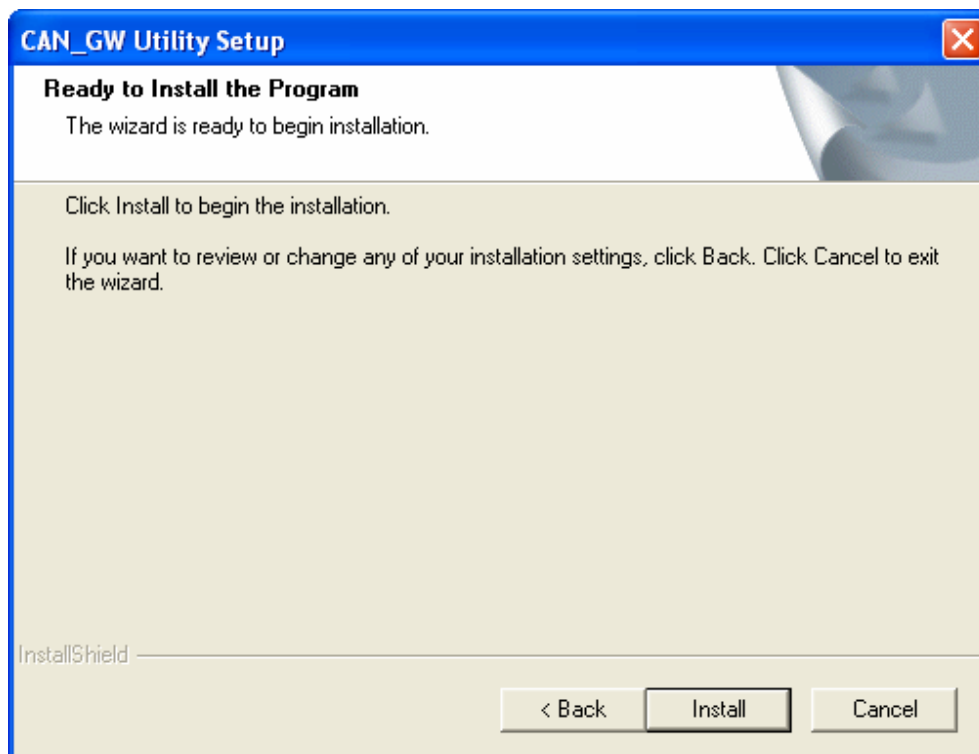

Fig 5-4. “Ready to Install the Program” dialog
Step 5: Click “Next” button and A “Ready to Install” window pops up to prompt user as Fig 5-4 shown.